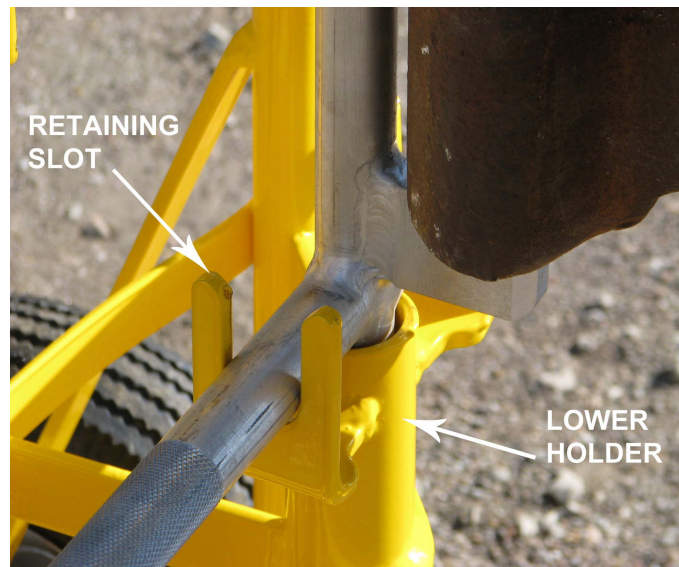

FIGURE 2
5. Carry the knuckle and carrier to the cart, and place the carrier into the lower holder. Make sure the carrier handle is aligned with and seated in the lower holder retaining slots (Figure 2 & 3).